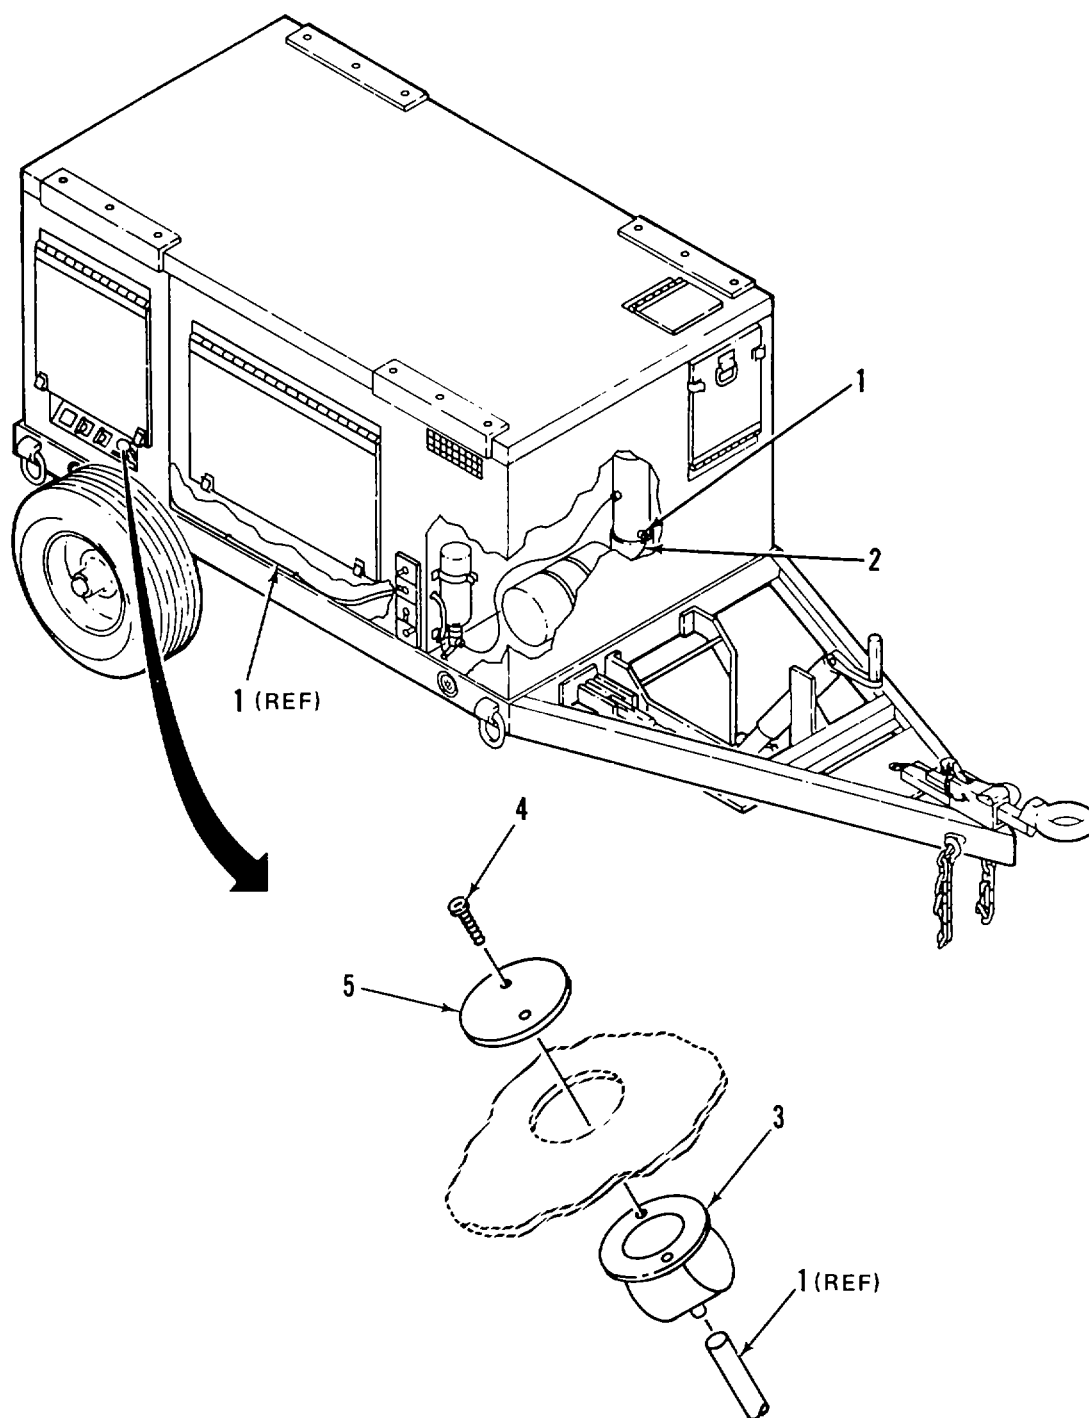

Figure 2-21.
a. REMOVE. (Figure 2-21)
- (1) Disconnect hose (1) at air cleaner outlet line (2).
- (2) Disconnect other end of hose (1) from air filter gage (3).
- (3) Loosen cable clamps and remove hose (1).
- (4) Remove screws (4) from top of air filter gage (5). Remove air filter gage (3).